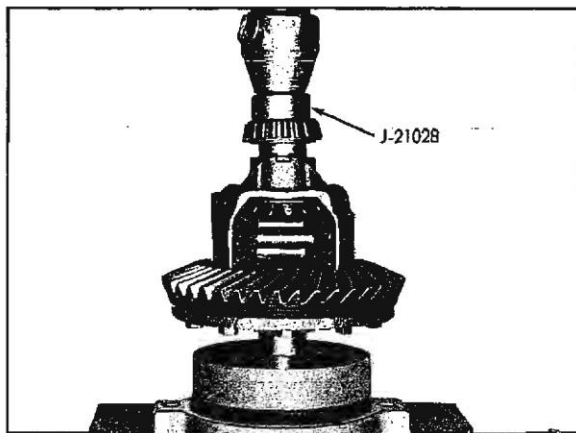

Fig. 4-28 Installing Right Differential Side Bearing
9. Using J-21028, press on bearing with arbor press (Fig. 4-28).